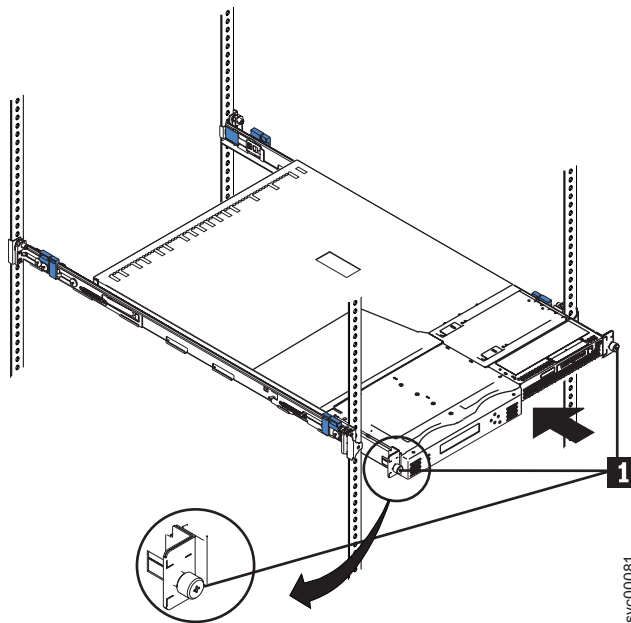

Figure 71. Sliding the SAN Volume Controller 2145-8F4 into the rack
2. Latch the two latches on the front of the rack to attach the SAN Volume Controller to the rack. (**1** in Figure 71 on page 350).
Note: The front of the rail assembly looks different from the front, as you can see in Figure 71 on page 350.